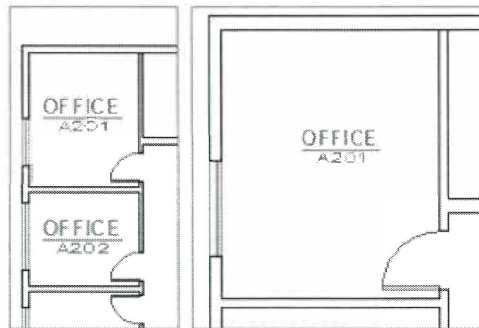

Figure 5–4
- Blocks can be annotative, which means they scale appropriately to the sheet of paper when they are plotted. This is used when you are creating annotation blocks, which often include text (such as a section callout bubble or room tags), as shown in Figure 5–4. Use **Annotative** to make the new block annotative.